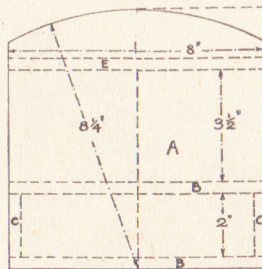

Fig. 2—Side elevation
The rounded-top fillet (D) which is glued and pinned down to the top of the box is placed $2\frac{1}{8}$ ins. out from the main back to the front edge, thus allowing the pipes to rest, as shown in the side view Fig. 2, without falling forward.